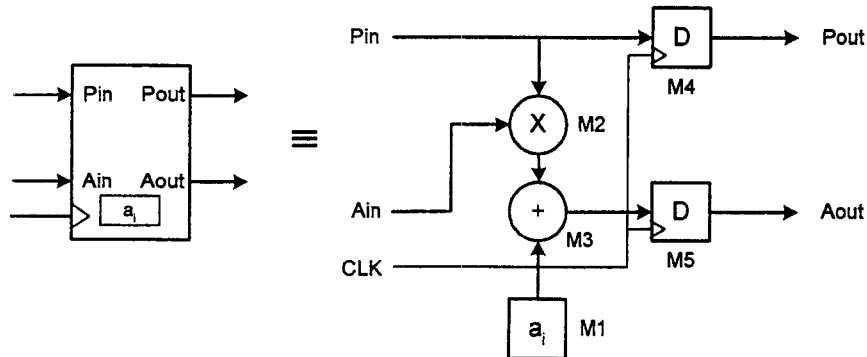

Figure 7.1
7. Figure 7.1 shows a systolic processing cell consisting of a coefficient register M1, a 2's complement multiplier M2, an adder M3 and two D-type registers M4, M5. The coefficient register is preloaded with a constant value a_i .